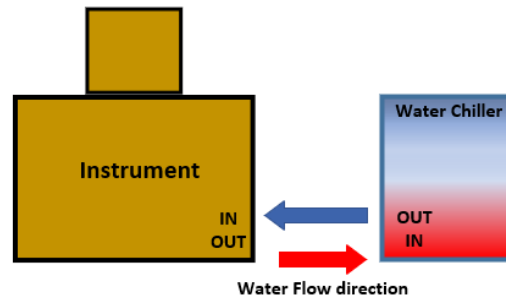

Figure 1. Setup between LFA 447 Nanoflash and chiller.
- Connection of the cooling water system uses two hoses that need to be connected properly to ensure the water flow loop between the chiller and dilatometer is established (as shown in Figure 1).